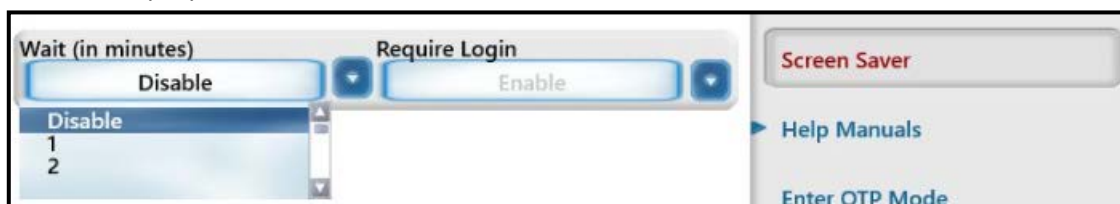

Figure 179: Screen Saver Screen
1. Selecting **Screen Saver** from the **Service Engineer** menu, (ref: Figure 92) displays the **Screens Saver** screen show in Figure 179.